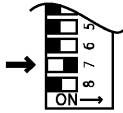

Fig. 3
- Set the Infinity to 'Forced Low' combustion by setting No.7 dip switch of the (SW1) set of dip switches to 'ON'.(Fig.3).